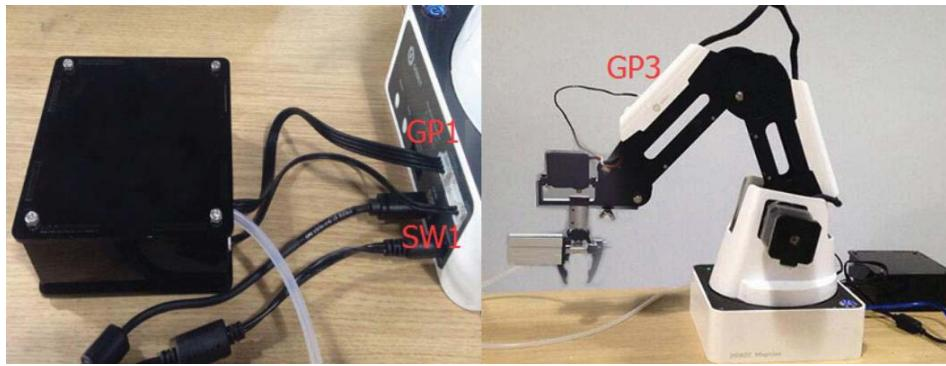

Figure 5.14 The effect of the gripper kit installation
- Step 3** Connect the gripper kit and an air pump to the Dobot Magician in the same way as the suction cup kit is installed. For details, see 5.2.1 Installing a Suction Cup Kit. Figure 5.14 shows the effect of the gripper kit installation.